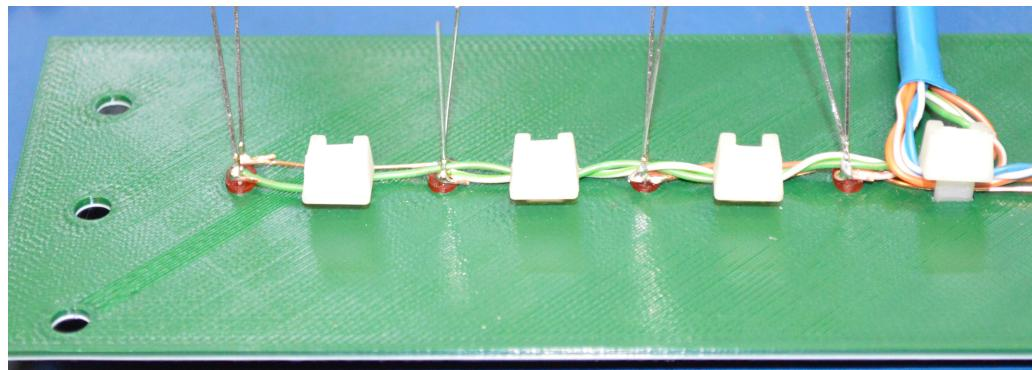

Figure 2.14: Solder the Remaining LEDs on That Side and Add Cable Ties
- Solder the remaining LEDs on that side and add cable ties between them. See Figure 2.14.